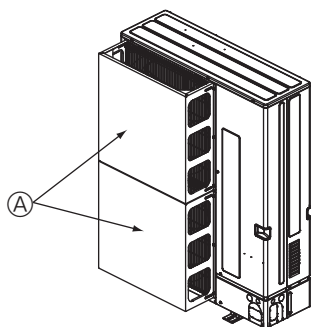

Fig. 2-15
- ① Install an optional air protect guide if the unit is installed in a location where strong winds from a typhoon, etc. may directly enter the air outlet. (Fig. 2-15)